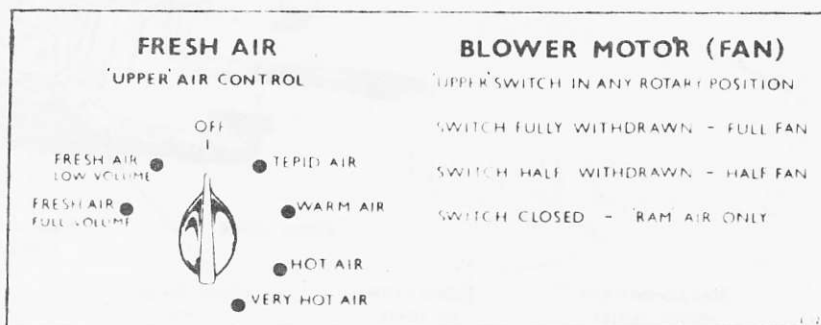

Fig. C2(S) Switch positions heating unit 'Upper' system
The main switch mechanism consists basically of five sets of moving contacts which rotate when the control knob is turned. Lobes on the contacts 'make' and 'break' with fixed contacts spaced around the arc of travel. The effect produced by each position of the switch is described in Figure C2(S) of this Supplement.